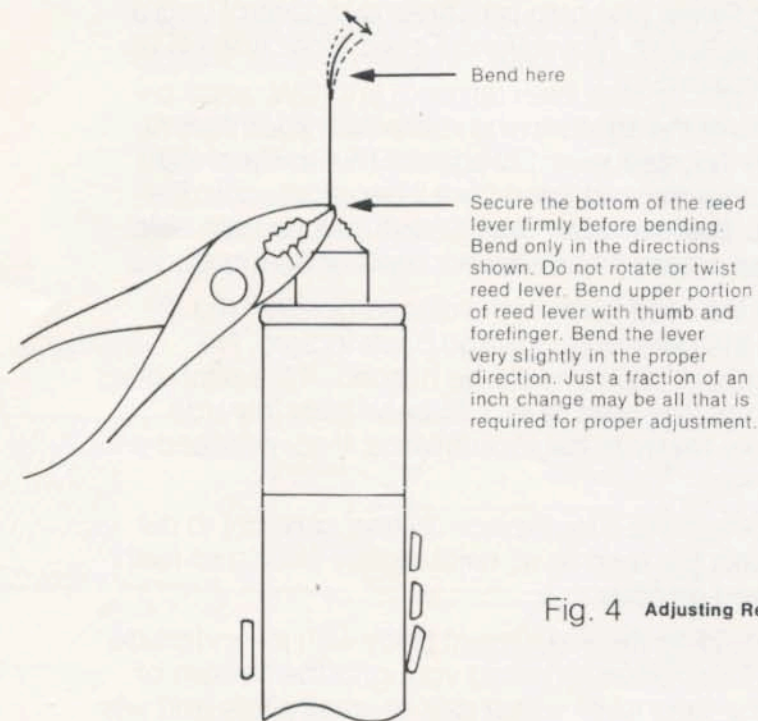

Fig. 4 **Adjusting Reed Lever**
- b. Holding the instrument body with its underside (Thumb Keys) facing you, grip the bottom of the reed lever with a pair of small pliers and with your thumb and forefinger bend the reed lever very slightly away from you. Replace the mouthpiece taking care not to disturb the reed lever and repeat #1 (see fig. 4).